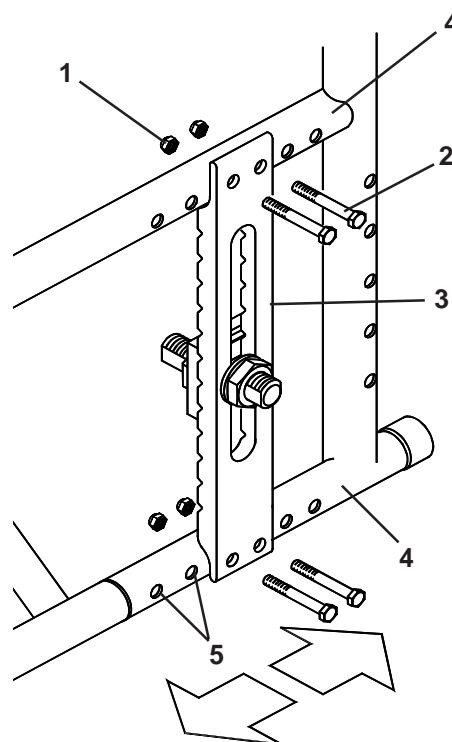

Fig. 36
The centre of gravity (Fig. 36) is adjusted by removing the four retaining nuts (1) and screws (2) from the axle plate (3), sliding the axle plate along the top and bottom frame members (4) to the required position and refitting the nuts and screws in the predrilled holes (5) in the frame. The spanner size is 10mm A/F, the screws and nuts must be tightened to 8-10Nm torque.